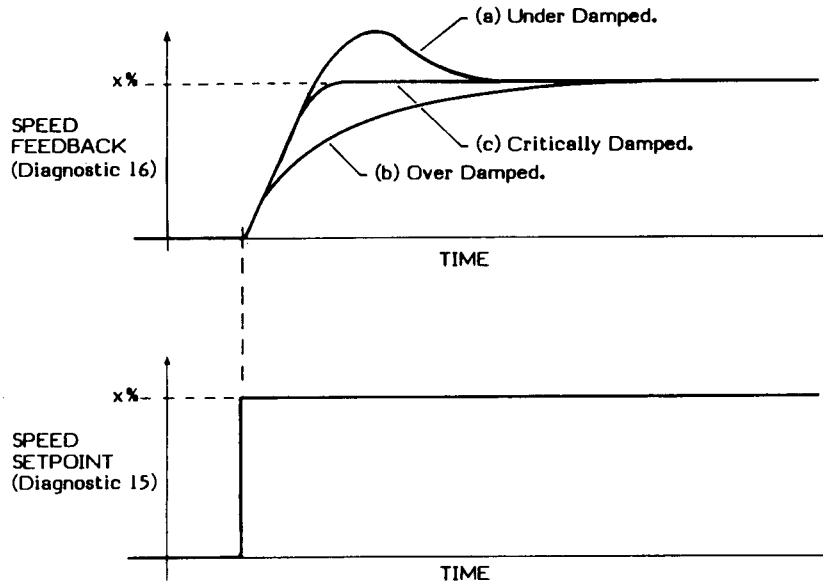

FIGURE 4. TYPICAL SPEED RESPONSE CURVES.
10. Reconnect the supplies and initiate Start. Apply a small step change (about 20%) to the Speed Setpoint input and observe the speed response. If necessary adjust the Speed Proportional and Speed Integral presets (P5 and P6) gradually to obtain a Critically Damped performance i.e. the fastest response possible without overshoot, as shown in Figure 4, Curve (c). In general, clockwise rotation of the presets will improve the rate of response, but advancing the controls too far will tend to introduce overshoot. The optimum setting of P5 and P6 will be a compromise between the two extremes shown in Curves (a) and (b), Figure 4.